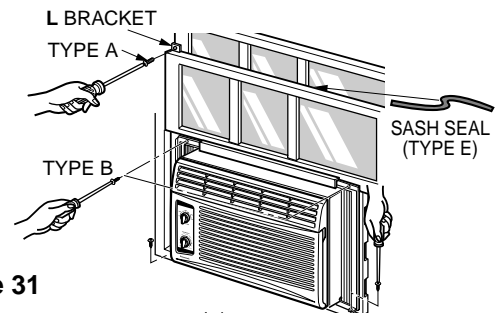

Figure 31
Extend the guide panels (TYPE F) to fill the window opening using 4 screws (TYPE B) to secure them, as shown in Fig. 31.
- Cut the sash seal (TYPE E) to the window width. Stuff the sash seal between the glass and the window to prevent air and insects from getting into the room, as shown in Fig. 31.
- Fasten the L bracket using a screw (TYPE A), as shown in Fig. 31.